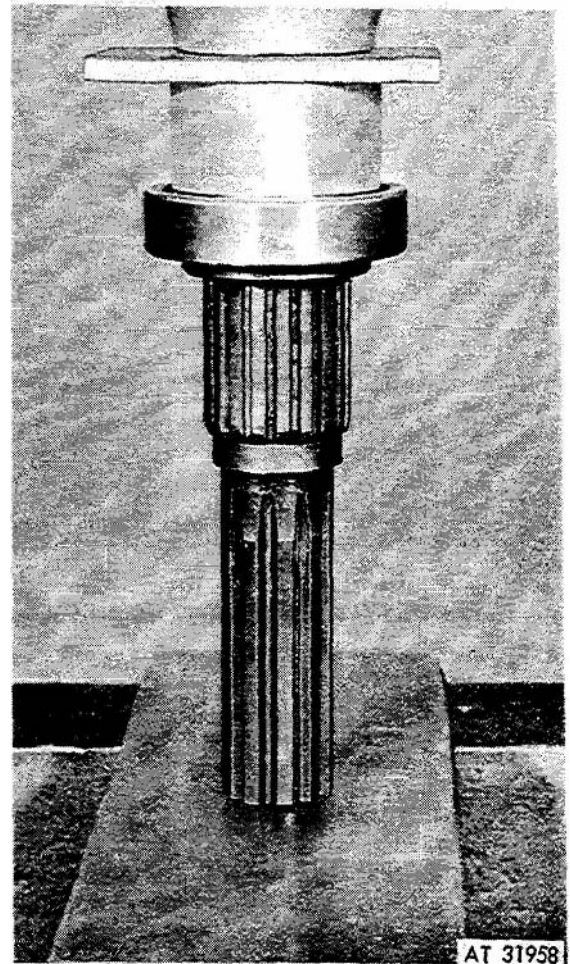

Figure 3-162. Pressing bearing on shaft.
(25) Position spacer (3, fig 3-133) on shaft (4) and press bearing (2) on shaft (fig 3-162).